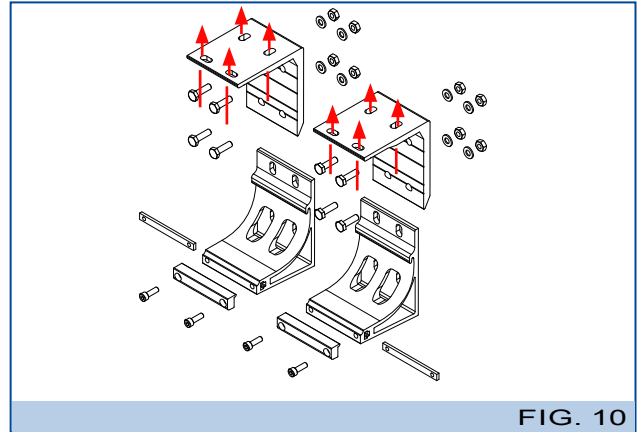

FIG. 10
- 15▪ Tighten the grub screw (I) to raise the elbow of the arm, and unscrew to lower it.
- 16▪ Once the correct parallel position of the arms has been found, tighten the grub screw (F-Fig.10) in both arm supports.